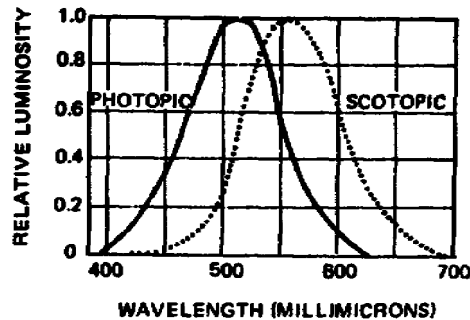

Figure 2-2. Luminosity curves for photopic and scotopic
1. A luminosity curve is a graphical representation of the relative brightness to the eye of spectrum colors of a different wavelength. As shown in figure 2-2, the relative brightness of colors viewed under bright light differs from the same colors viewed under dim light. The two curves are similar in shape, but the scotopic curve is displaced about 40 millimicrons to the shorter wavelengths.